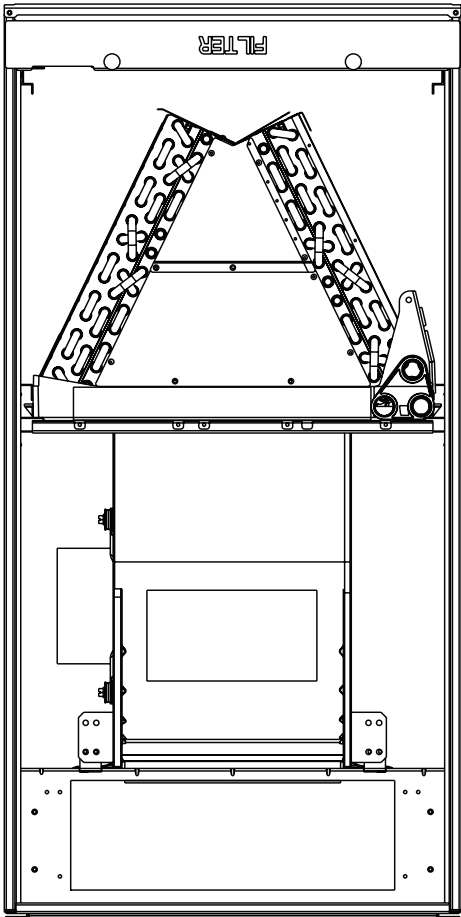

Figure 10. Converted Air Handler Panels Removed
10. Place the unit with the blower side down and replace the coil on the coil channel supports with the drain connections at the bottom. The unit is now in downflow position with front access. Do not re-attach coil support tab. See Figures 10 and 11 for final configuration.